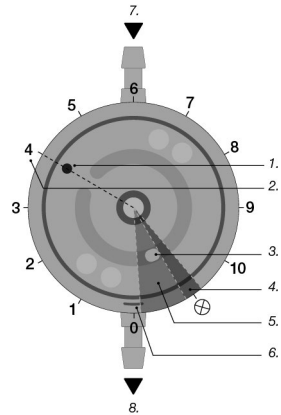

Fig. 10: Schematic representation of rotor in an X-ray image
The position of the channel inlet (1) is crucial (Fig. 10), which is determined by the position of the rotor.
The position of the channel inlet (1) shows the selected flow-reduction level (2) (Fig. 10).
If the position of the channel inlet is in the dark grey range (4), the flow-reducing unit, and thus the shunt system, is closed (shunt switch-off range, 'M.flow off' ⊗). To prevent reading the flow-reduction level in reverse, the rotor stop (3) serves as orientation - in a top view onto the implanted valve as in Fig. 10, the rotor stop is visible on the lower right-hand side.